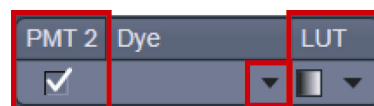

Fig. 100 Channel activation and color selection
- Set the **VSD** to the position 500 nm and activate PMT 2 via the check box. You may want to assign a different color to the channel which will be taken over for the initial display of the image. Click the LUT part of the list to open the color table and select the desired color (Fig. 100).